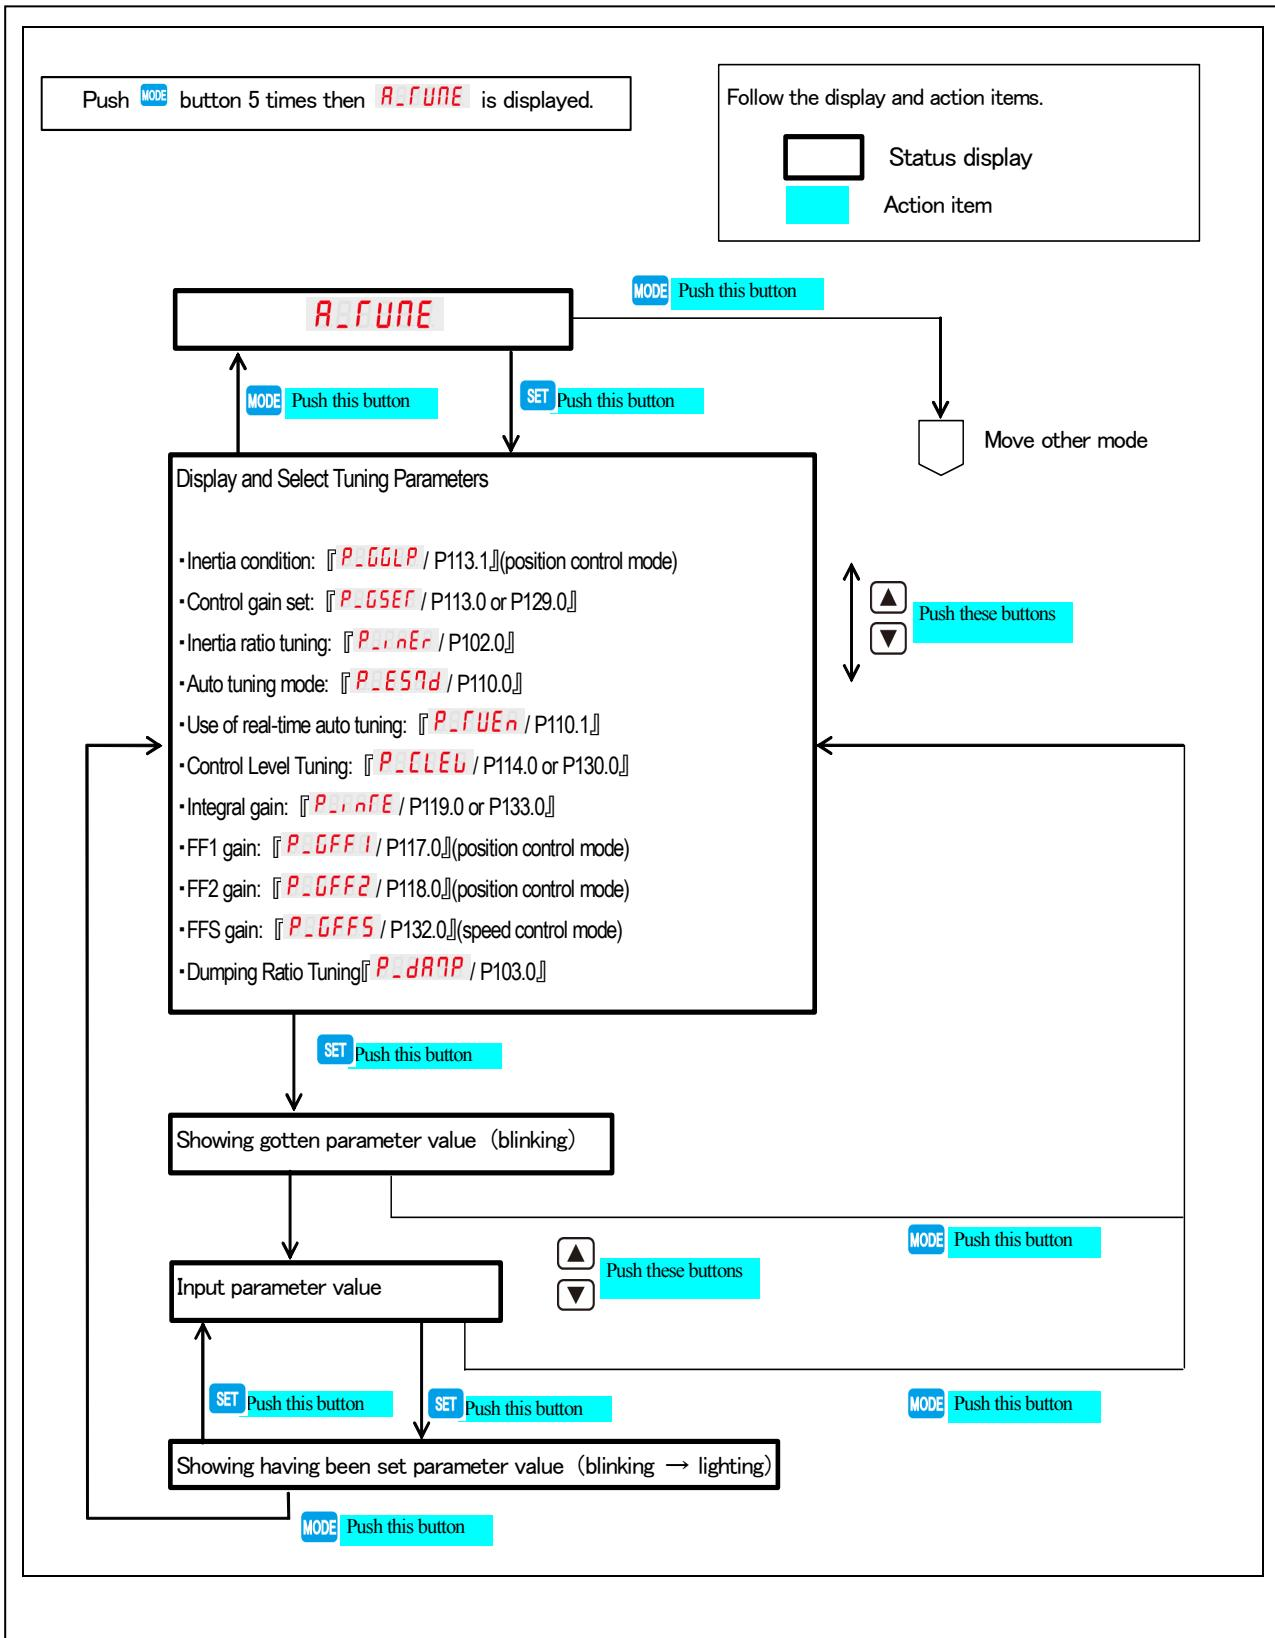

Figure 4-7-1 Auto Tuning Operation Flowchart
- Perform Tuning as illustrated in the flowchart in Figure 4-7-1.